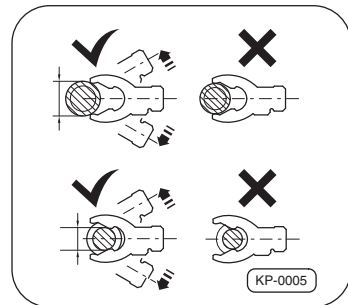

Fig. 10 · Limit gauge wear check
- 1 Inspect the wear at the circumference of the fifth wheel kingpin using the two zones of the limit gauges by SAF-HOLLAND. Fig. 10